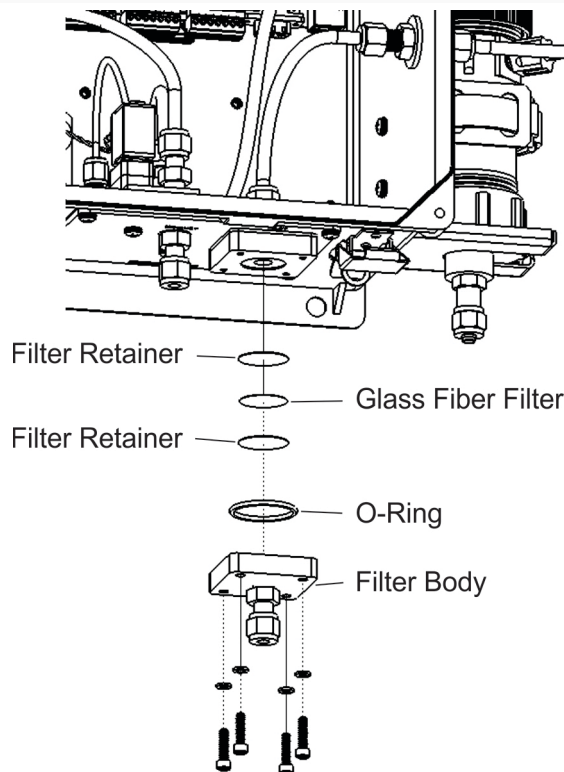

Figure 7-2. Particulate Filter (PN 02832) Replacement
2. Locate the particulate housing filter on the bottom panel and loosen the four screws on the sample filter body (see Figure 7-2).